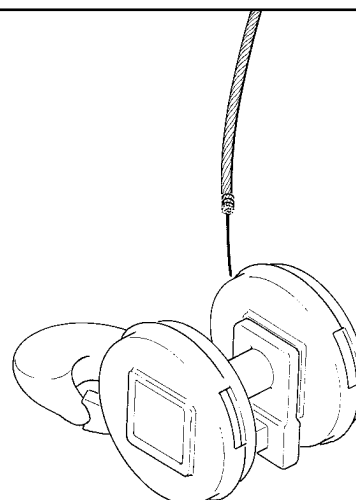

fig. 48
- install the hook block (fig. 48) as described in point 4.5.2 (fig. 82-83).